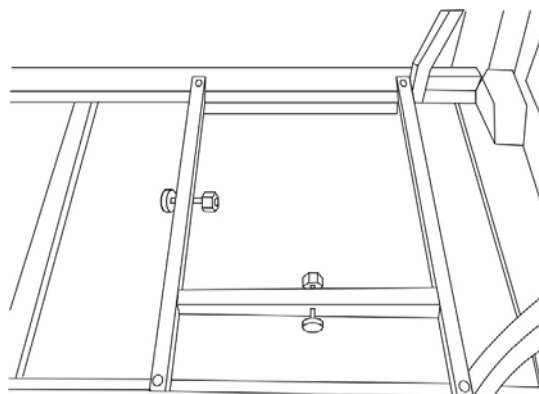

Figure 7
5. Tighten threaded knobs found on tank tray (Figure 7) so that the LP tank cannot move from side to side. Do not remove plastic cap from end of threaded section.